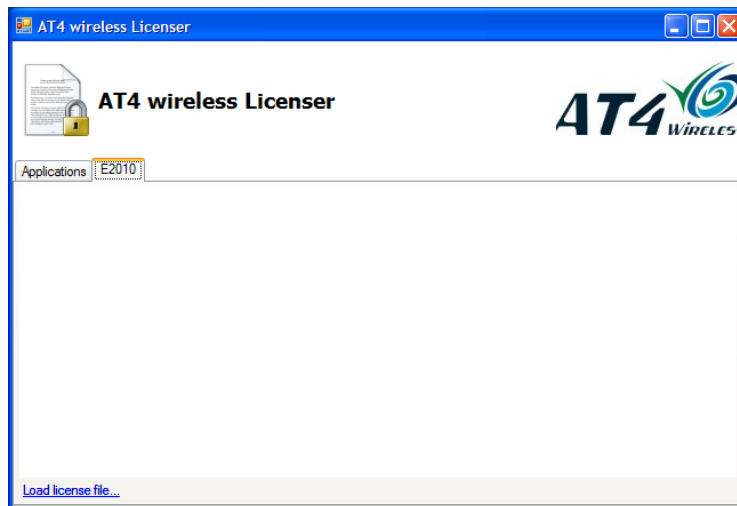

Figure 2-31: AT4 Wireless Licenser Window
4. Run the **License_Installer_v1.0_Release_4195.exe** file to install the license. The *AT4 Wireless Licenser* window displays, as shown in Figure 2-31